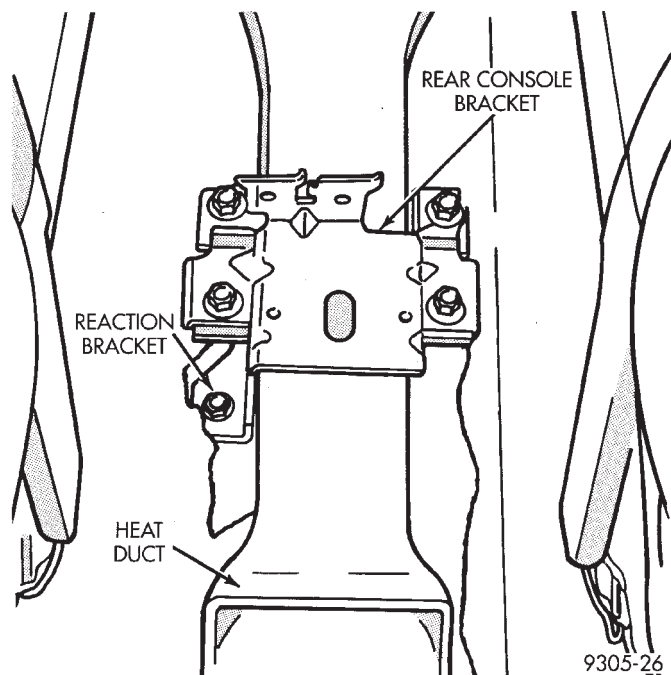

Fig. 12 Console Mounting Bracket And Heat Duct
(6) Remove rear console mounting bracket (Fig. 12) from park brake cable reaction bracket. Remove rear passenger compartment heat duct (Fig. 12) from vehicle, for access to park brake cables.